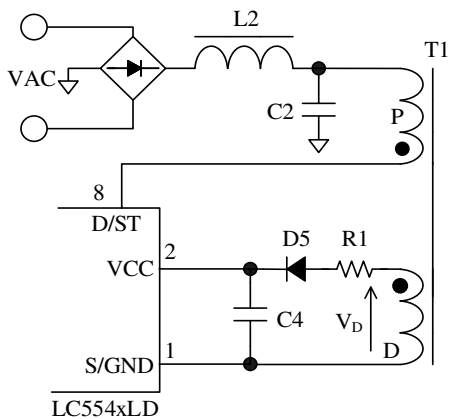

Figure 8-1. VCC Pin Peripheral Circuit
Figure 8-1 shows the VCC pin peripheral circuit. The IC has the startup circuit connected to the D/ST pin. When the D/ST pin voltage reaches the Startup Circuit Operation Voltage, $V_{STARTUP} = 21\text{ V}$, the startup circuit starts to operate. During the startup process, the constant current, $I_{CC(STARTUP)} = -4.0\text{ mA}$, charges C4 connected to the VCC pin. When the VCC pin voltage increases to $V_{CC(ON)} = 15.1\text{ V}$, the IC starts to operate. After that, the startup circuit is automatically cut off to eliminate power dissipation by the startup circuit.
voltage and the circuit current, I_{CC} . When the VCC pin voltage reaches the Operation Start Voltage, $V_{CC(ON)} = 15.1\text{ V}$, the control circuit starts to operate, then the circuit current increases. When the VCC pin voltage decreases to $V_{CC(OFF)} = 9.4\text{ V}$, the control circuit operation is stopped by the undervoltage lockout (UVLO) circuit, and is put back to the state before startup. After the IC starts switching operation, the rectified auxiliary winding voltage is supplied to the VCC pin. The auxiliary winding voltage, V_D , is presented in Figure 8-1. In the variation range of the input and output specifications, the winding turns of the auxiliary winding, D, should be adjusted so that the VCC pin voltage falls within the range defined by Equation (2). The reference voltage across an auxiliary winding is about 20 V.